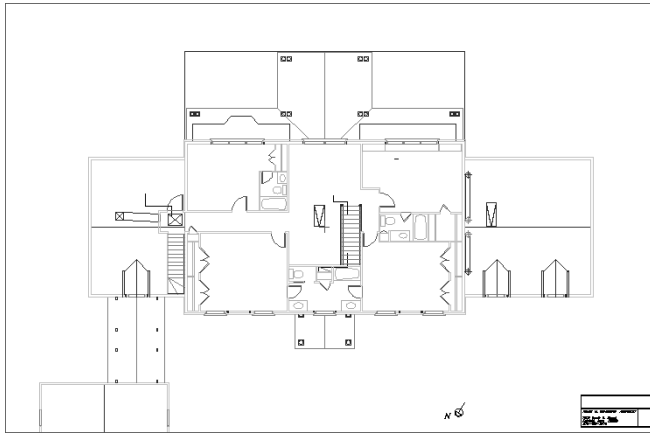

**Figure 19-4:** The current drawing is blank but displays an xref of a house plan that has a nested xref of a title block.
10. Save your drawing. It should look like Figure 19-4.